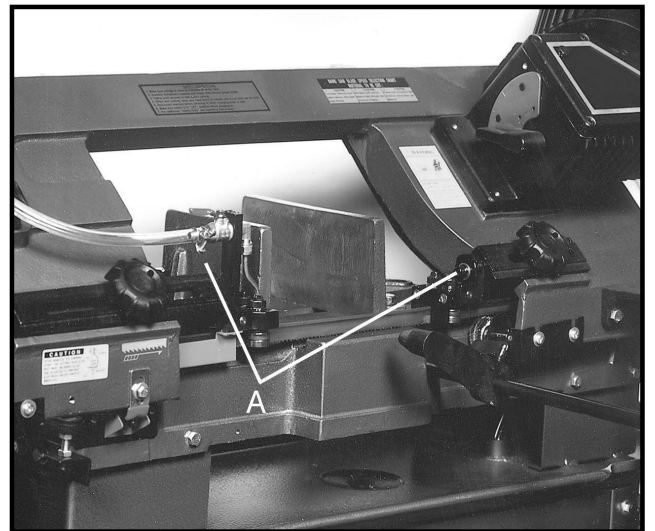

Fig. 11
2. Place machinist's square on table next to blade as pictured in Fig. 11 .
4. If adjustment is necessary, loosen bolts (A, Fig. 11 ) and rotate blade guide assemblies slightly in the same direction until blade makes contact with the square along it's entire width.
5. Tighten bolts (A).